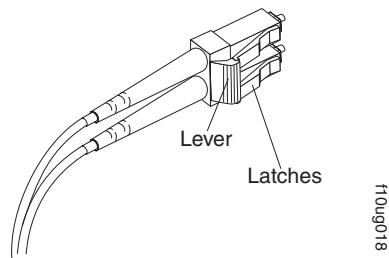

Figure 34. LC-LC fibre-channel cable lever and latches
1. On the end of the LC-LC cable that connects into the SFP module or host bus adapter, press down and hold the lever to release the latches, as shown in Figure 34.